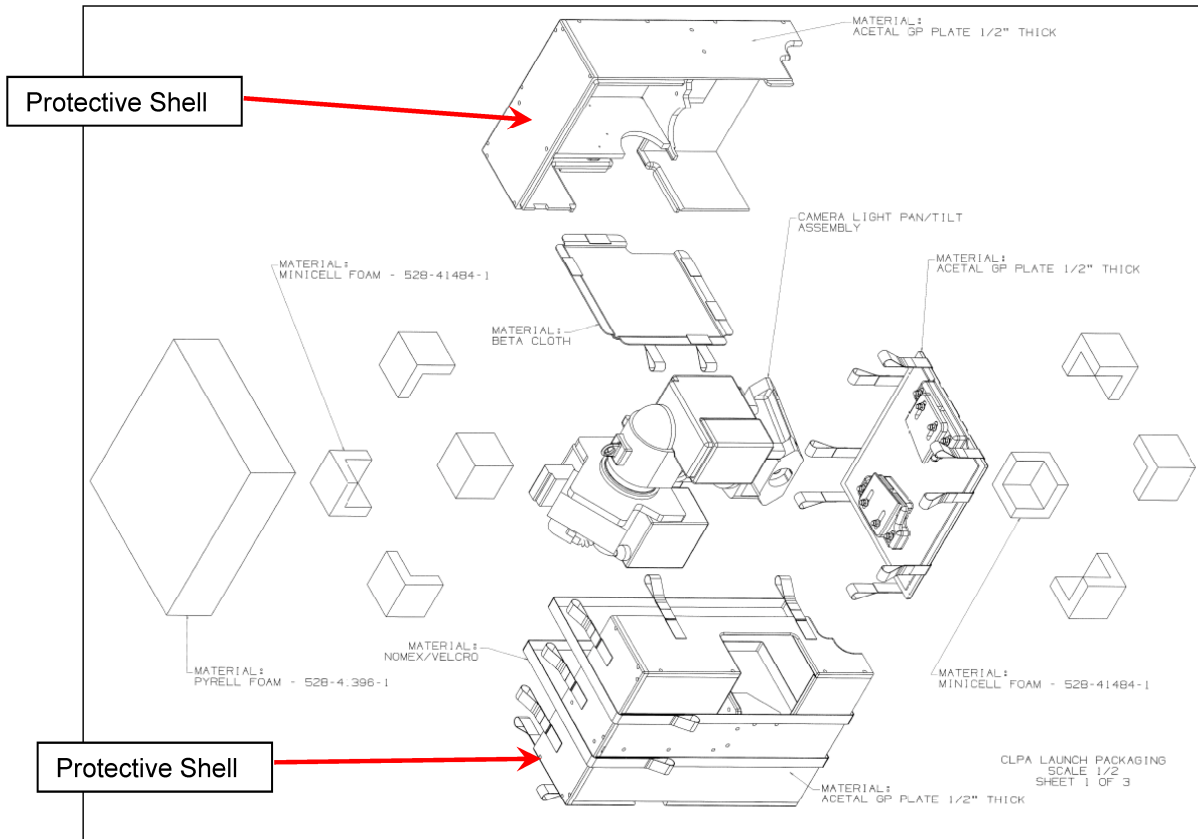

Figure 7: Camera Packaging Exploded View
18. Assemble the two Protective Shells around the Camera, reference Figure 7. Ensure interlocking side feature and interlocking feature to baseplate is engaged and closed completely.
* they are centered on the base plate, reference Figure 7. Ensure
- * 18.11 Assemble the two Protective Shells around the Camera, reference Figure 7. Ensure interlocking side feature and interlocking feature to baseplate is engaged and closed completely.
22. Install Foam Pads as shown in Figures 7 and 8.